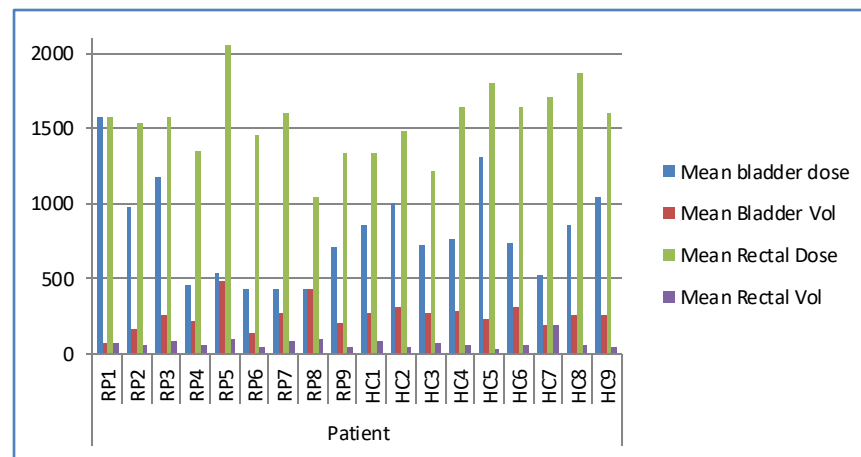

Fig 2- CBCT Analysis
- Accounting for displacements the average delivered dose to the bladder was 427.5cGy- 1575.5 cGy (RP group) and 520.01cGy- 1312.63 cGy (HC group) (Fig 2)
- Average delivered dose to the rectum 1337.5cGy-2053.cGy (RP group) and 1218.87 cGy- 1861.13cGy (HC group)(Fig 2)